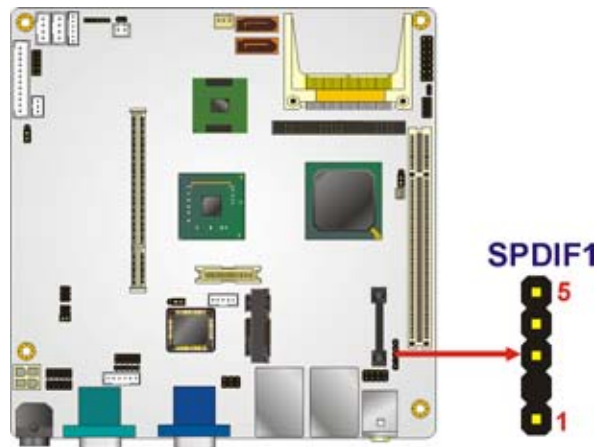

Figure 4-21: SPDIF Connector Location
- CN Location:** See Figure 4-21